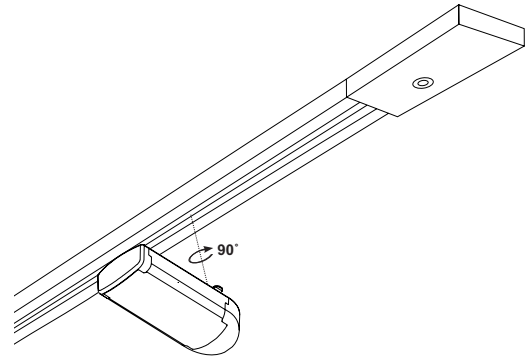
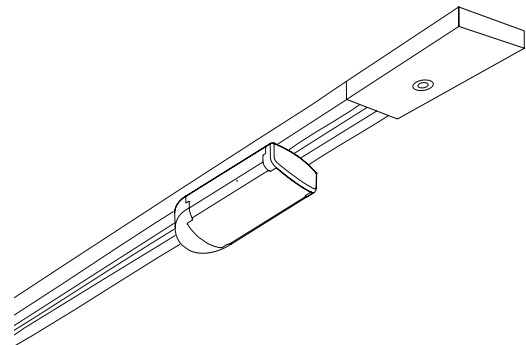

Fig. 1
Fig. 2
2. Rotate the luminaire one-quarter turn (90°) in either direction (Fig. 1) until the contacts "snap" into the trac channel (luminaire will be parallel to trac as shown in Fig. 2) to ensure contact with the trac buss bars.